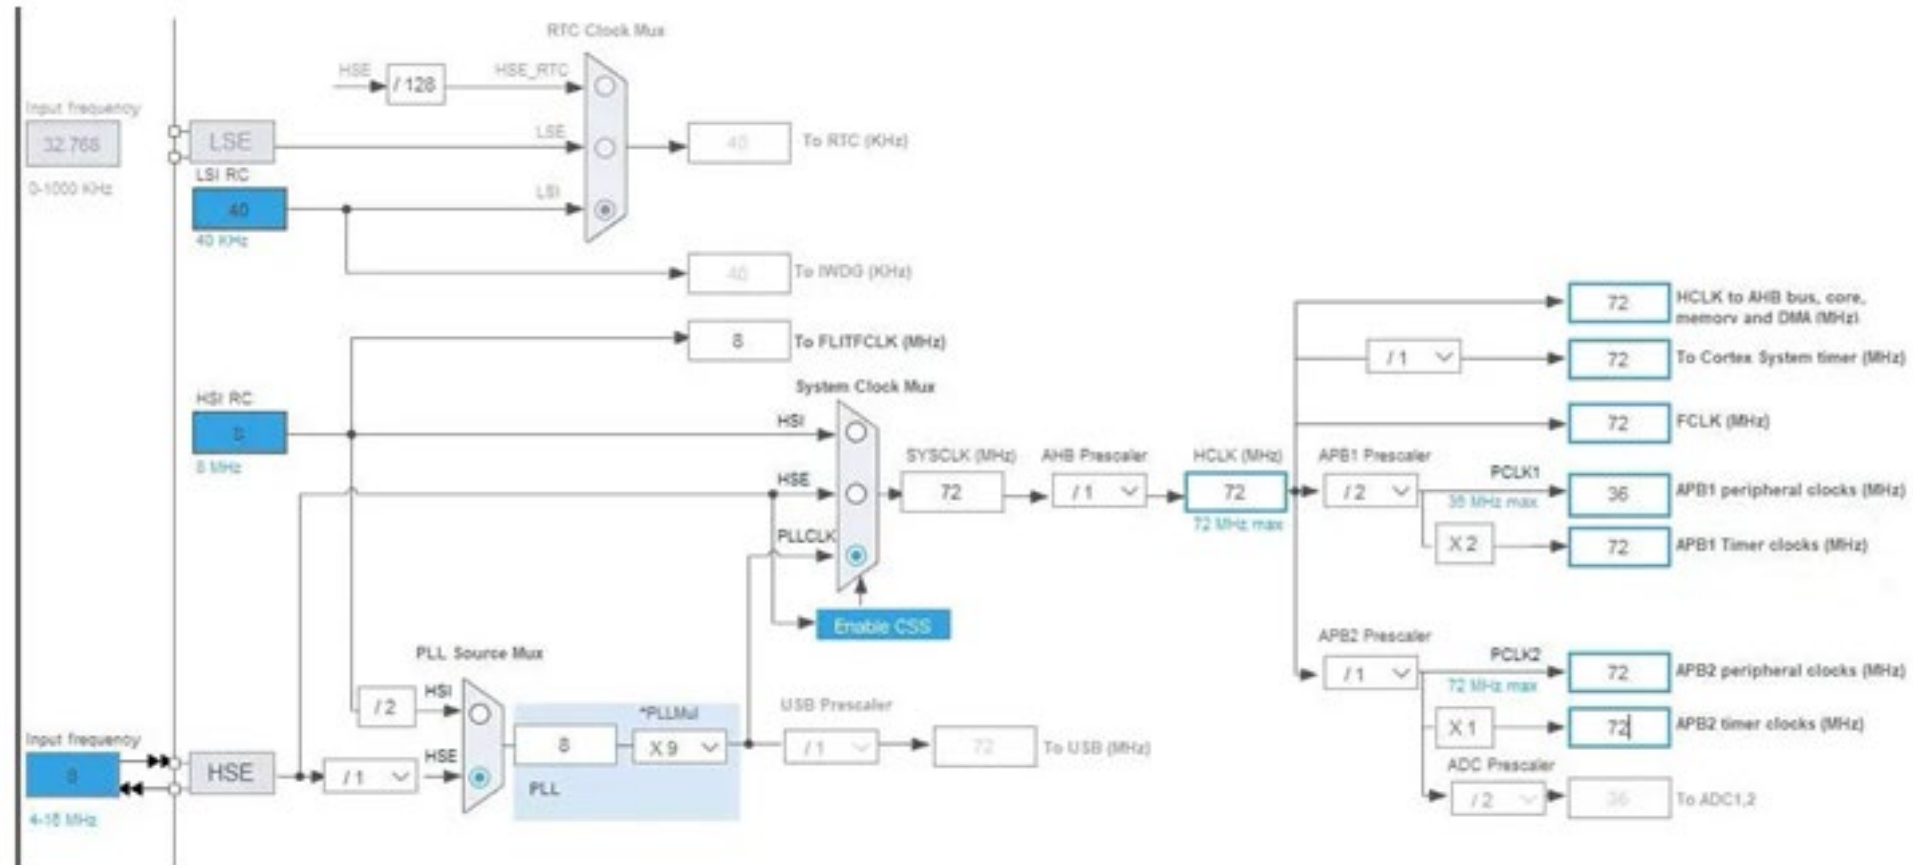

Figure 8.10 SYSCLK settings
- From Figure 8.10, we can see APB1 Prescale is set as 2 to generate 36MHz ($72\text{MHz} / 2$) clock for APB1 peripheral clocks. Thus, USART2 clock is 36MHz.